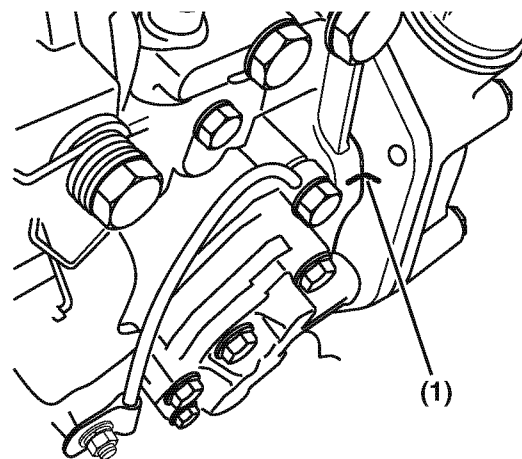

Figure 7-27
- Align the reference marks (**Figure 7-27, (1)**) previously made on both the fuel injection pump mounting flange and gear case or front plate.